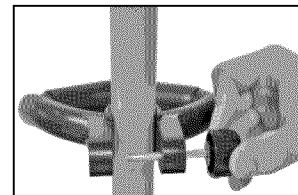

Figure 12 - Inserting bolt into handle
3. Insert bolt back into the front handle (see Figure 12).